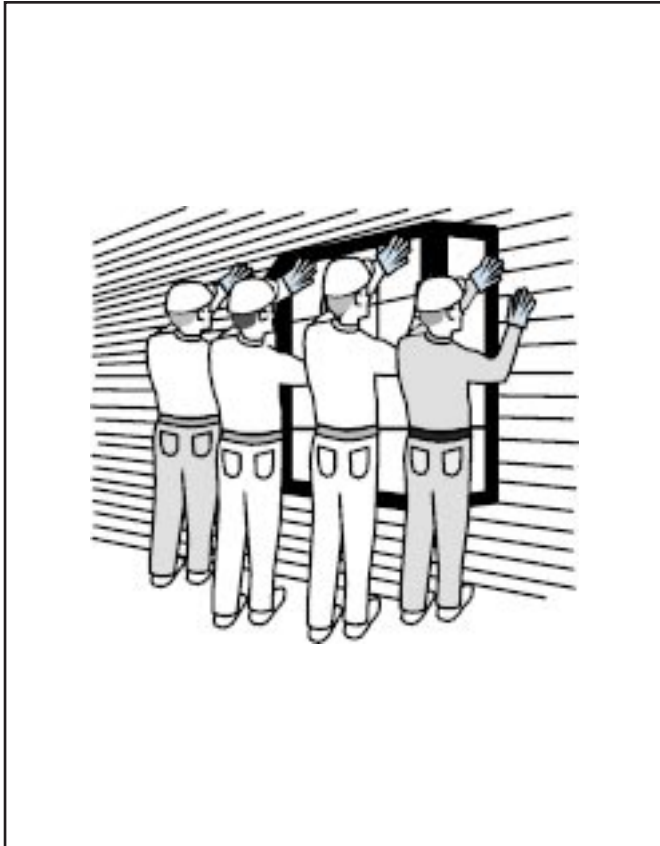

Figure 17-5 Use an Adequate Number of Persons
2. A prefabricated bay or bow window unit is heavy and bulky. It is recommended that at least one person per three feet of width should be available to position it in the opening (see Figure 17-5).